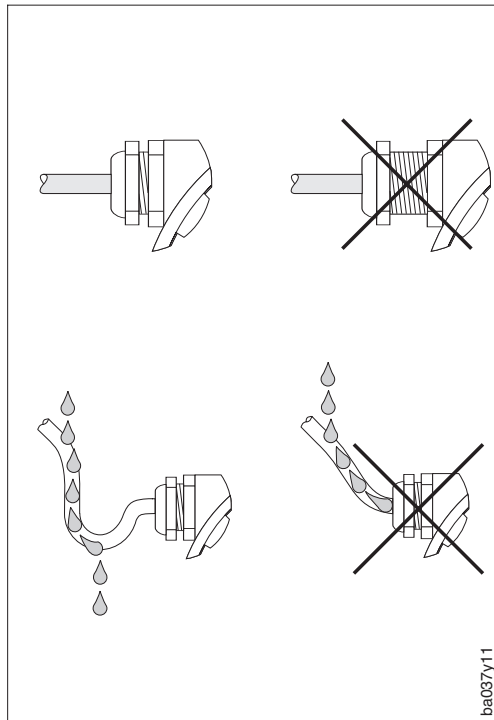

Fig. 2
- The cable gland must be firmly tightened (see Fig. 2).
- The cable must loop down before entering the cable gland to ensure that no moisture can enter it (see Fig. 2).